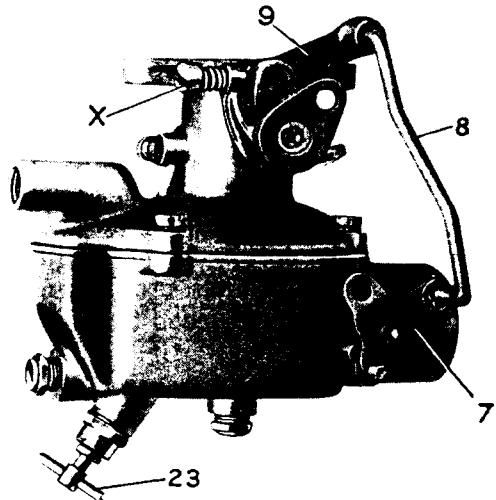
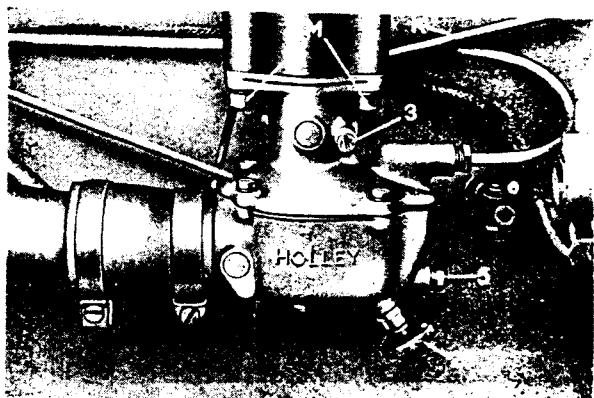

FIG. 22
FIG. 24
### General Description. Fig. 22.
Fig. 22 illustrates the inter-connecting linkage between the choke and throttle plates whereby closing of the choke plate
This should be carried out when the engine is hot, the minimum running speed usually being set at 400 — 450 r.p.m. by adjustment of screw (X) Fig. 22, on throttle shaft lever. This should be turned clockwise to increase idling speed and vice versa. An approximate setting for the slow running mixture screw (3), fig. 24, is  $\frac{1}{2}$  to 1 turn open from the fully closed position. If, however, there is evidence of rich running i.e. black smoke from the exhaust, or "hunting," the screw should be gradually turned in an anti-clockwise direction until the engine runs cleanly and evenly.
Thoroughly warm the engine and adjust slow-running mixture as instructed. Screw in main jet adjusting screw (23) gently until seated, and then unscrew 2 turns open. Figs. 22 and 24 show alternative types of main jet adjuster (23). When the adjustment is correct and the engine warm, it should be possible to open the throttle quickly and obtain an immediate response in engine speed. Should the engine hesitate, open the main jet one eighth of a turn at a time until the immediate response is obtained, without evidence of black exhaust smoke or "hunting."
### To Remove Carburetter. Fig. 24.